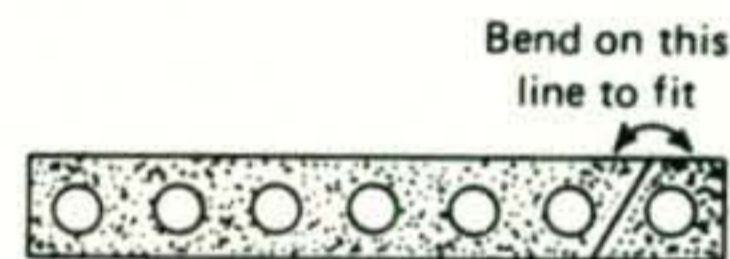

Fig. 4—Bending for attachment to third section.
3. Bend an adequate number of additional cross members as shown in fig. 4 and attach the third angle.